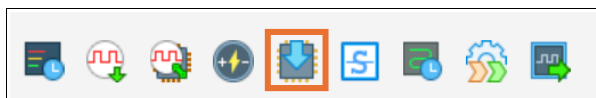

Figure 6.1. Programmer Icon
2. Click the **Programmer** icon, as shown in Figure 6.1.